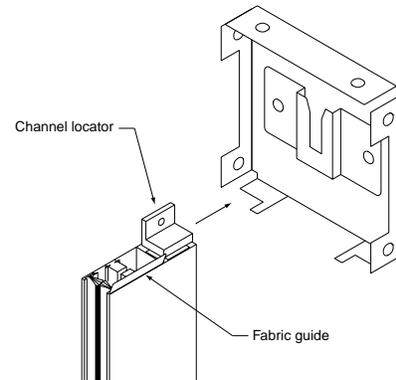

Figure 5
- ① With unit still on floor, install both side channels to both headboxes (see Fig. 5). Make sure channel locators are properly seated; tap gently with plastic hammer or rubber mallet if necessary. NOTE: Fabric travels toward motor end.